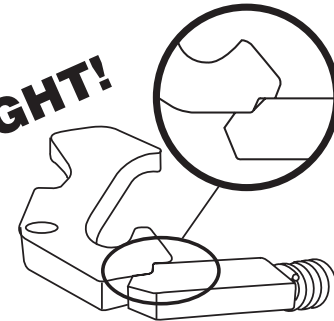

Figure 3B
2. **Check the plunger – it must be visible behind the lock and engaged on both steps**, as shown in *Figure 3A*. If the plunger is not visible or not engaged on both steps (*Figure 3B*), turn the adjustment bolt counterclockwise 1/2 turn, then try to lock the locks again.